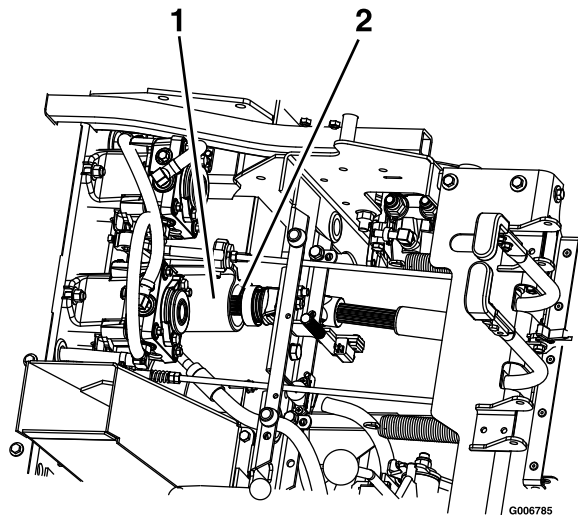

Figure 73
9. Unlatch the seat and disconnect the drive shaft using the quick coupler at the jackshaft (Figure 73). Refer to Unlatching the Seat \(page 21\)
5. Install the drive shaft onto the jackshaft (Figure 73).